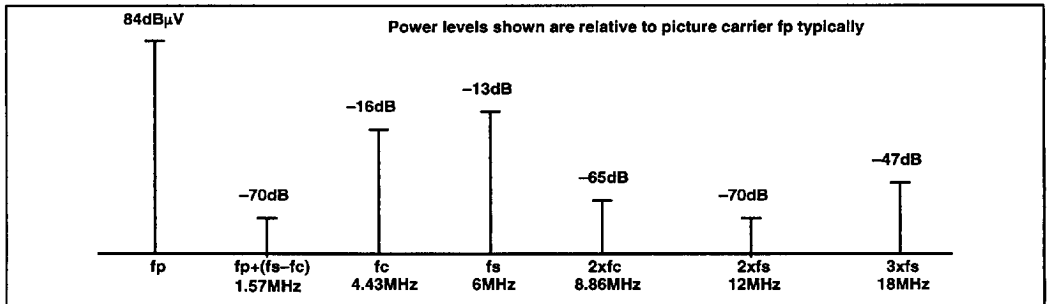
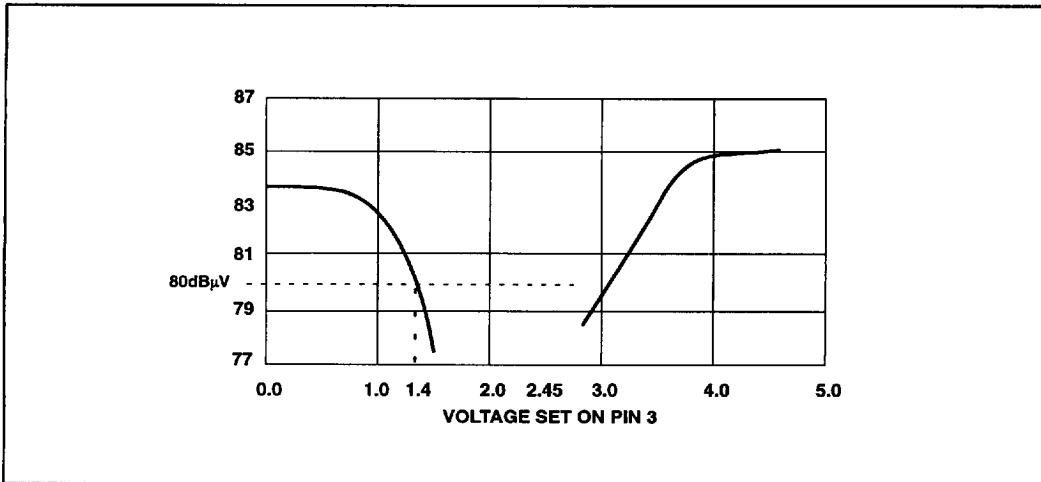

Fig. 3 Frequency spectrum above the Video picture carrier ( $Q_{TANK} = 9$ )
Fig. 4. Picture carrier, unmodulated RF output level
2. May be increased by use of external resistor, see Fig. 3
3. May be adjusted by use of external resistor dependent on video content, see Fig. 4
Pin 3 (MOD INDEX) is used to control both RF carrier amplitude and video polarity, see Fig. 3. Since the video input is internally AGC'd, varying the carrier amplitude will also adjust the video modulation index, see Fig. 4.
For example, for a negative modulation (PAL or NTSC) with an 80% modulation index, pin 3 should be set to 1.1 Volts (see Fig. 4). This voltage corresponds to an unmodulated RF output level of 82dB $\mu$ V, see Fig. 3.
As already stated, great care must be taken with the mod index pin, pin 3. This should be decoupled with chip components as close to the pin as possible. Ideally the mod index should be defined with a DC voltage, thus requiring the use of two external resistors, see Figs 4 and 5. It is also possible to define mod index through the use of a single resistor connected to ground or  $V_{CC}$  depending on whether negative or positive modulation is required.